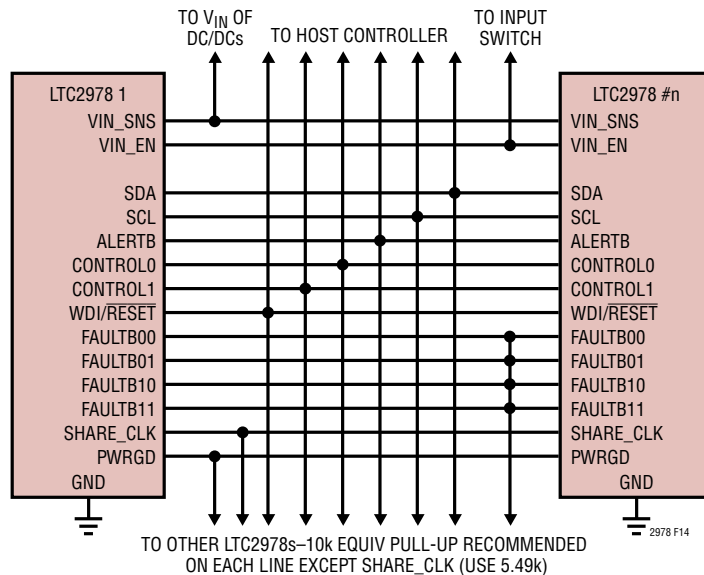
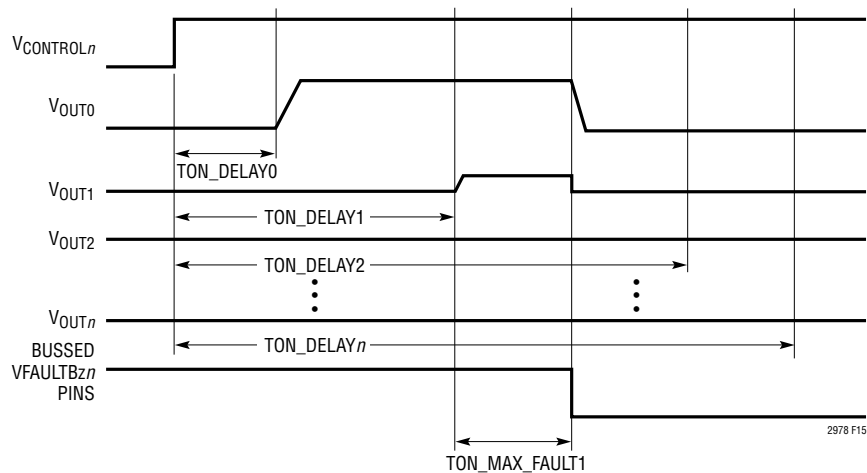

Figure 14. Typical Connections Between Multiple LTC2978s
Figure 15. Aborted On Sequence Due to Channel 1 Short
Figure 14 shows how to interconnect the pins in a typical multi-LTC2978 array.
- Connecting all V_{IN_EN} lines together will allow an overvoltage (OV) fault on any DC/DC converter's output in the array to shut off a common input switch.
- The `FAULTB n` lines can be connected together to create fault dependencies. Figure 14 shows a configuration where a fault on any `FAULTB n` will pull all others low. This is useful for arrays where it is desired to abort a startup sequence in the event any channel does not come up (see Figure 15).
- `PWRGD` reflects the status of the outputs that are mapped to it by the `MFR_PWRGD_EN` command. Figure 14 shows all the `PWRGD` pins connected together, but any combination may be used.